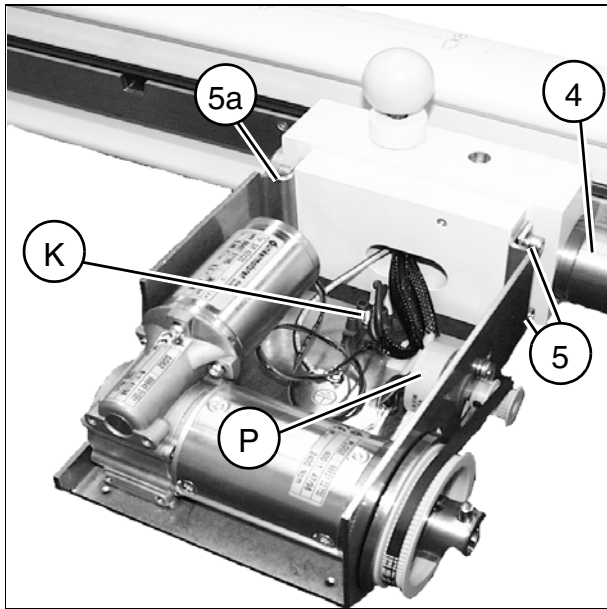

Fig. 26
- Open the cover of the angulation drive (Fig. 26).
- Desolder the cables at the potentiometer (P/ Fig. 26); when doing this, record the color coding of the cables to the potentiometer connections to ensure correct reconnection.
- Remove the old potentiometer completely (P/ Fig. 26).
- Disconnect the motor cable coming from the unit at the clamp (K/Fig. 26).
- Desolder the cables at the potentiometer (P/Fig. 26); when doing this, record the color coding of the cables to the potentiometer connections to ensure correct reconnection.
- Install the new angulation drive. Do not tighten the mounting screws yet (5/5a/Fig. 26).
- The screws can still be loosened (5/5a/Fig. 26). Follow the correct sequence when tightening (5 up, 5 down, 5a up, 5a down/ Fig. 26).